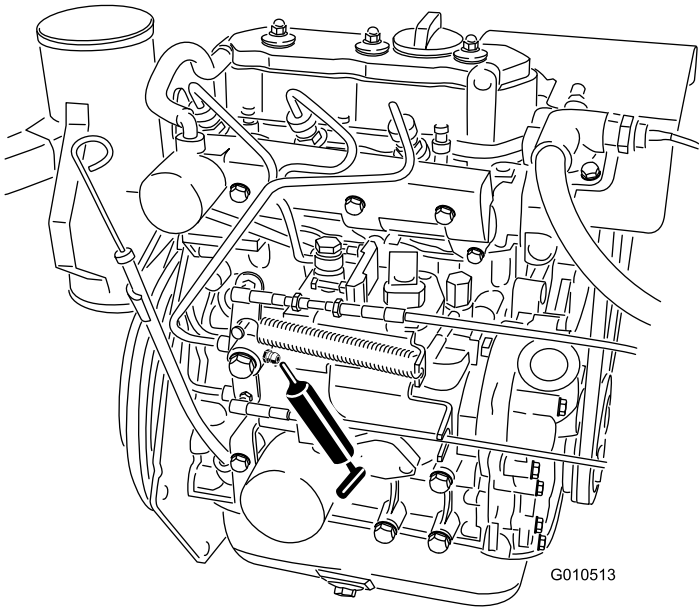

Figure 33
- Accelerator arm (1) (Figure 33)